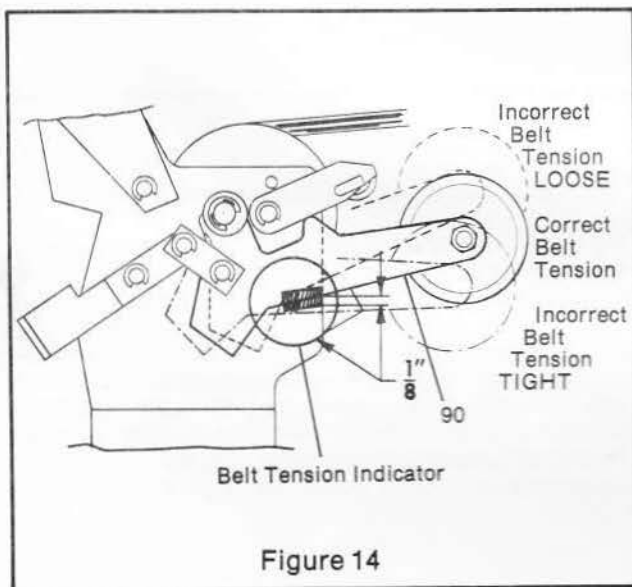
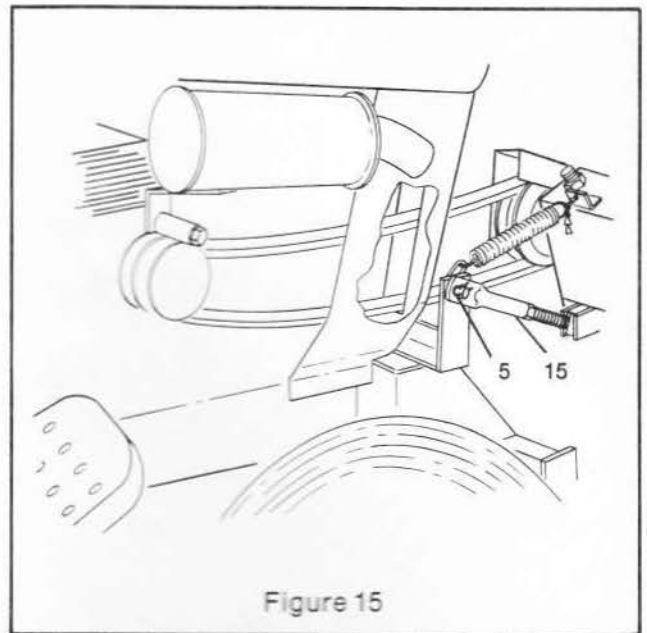
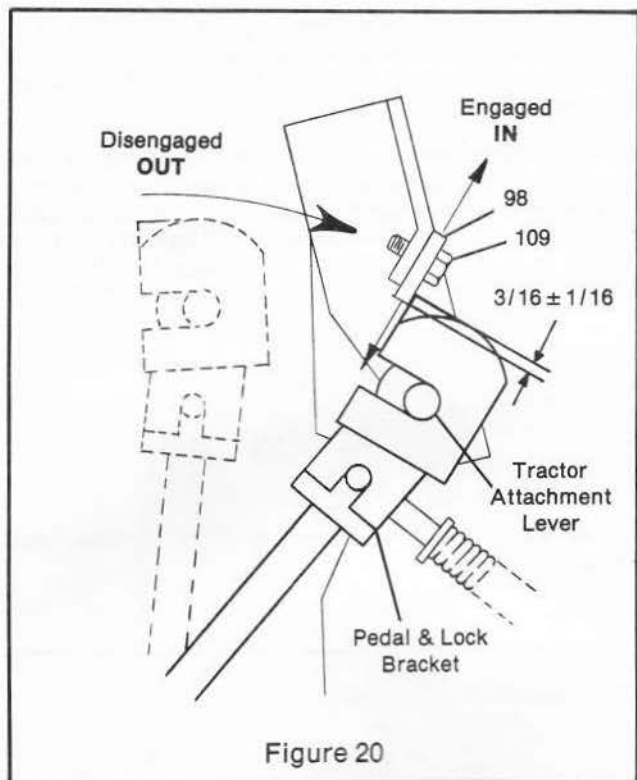

Figure 14
Figure 15
Figure 20
- A.) Remove pulley cover, (See Figure 14, Page 6 of your Tractor Owner's Manual).
- C.) Assemble V-belt (108) between pulley (21) and belt guard (18), placing V-belt on pulley (21).
- D.) Place V-belt (108) through hole in right hand side of Tractor grille, loop V-belt (108) around engine pulley and locate in first groove of engine pulley.
- E.) Assemble lock washer (112) and belt guide (105) onto hex bolt (104), furnished in Parts Bag, replacing hex bolt removed in Step (B) above.
STEP 17 (Figure 14, 15 & 20) V-Belt Adjustment
- When Tractor attachment clutch lever is in the engaged (in) position, correct belt tension is shown by Figure 14.
- To adjust V-belt tension, move Tractor attachment lever to (out) disengaged position (Figure 20) remove hair pin (5) from anchor pin (Figure 15). Slide lift arm (15) off anchor pin. Turn lift arm counter-clockwise to increase V-belt tension and clockwise to decrease V-belt tension. Adjust both arms equally to keep unit square with Tractor. Replace lift arms and secure with hair pins. Move Tractor attachment clutch arm lever to engaged (in) position and check clutch arm (90) for proper setting. Repeat process if necessary to obtain proper V-belt tension as shown in Figure 14.
The lock lever adjustment plate (98) locks Tractor attachment lever into engaged (in) position. Lock lever adjustment plate (98) must engage pedal & lock bracket (81) by $3/16''$. (Figure 20).
- C.) Loosen hex bolt (109) adjust as required and retighten securely.